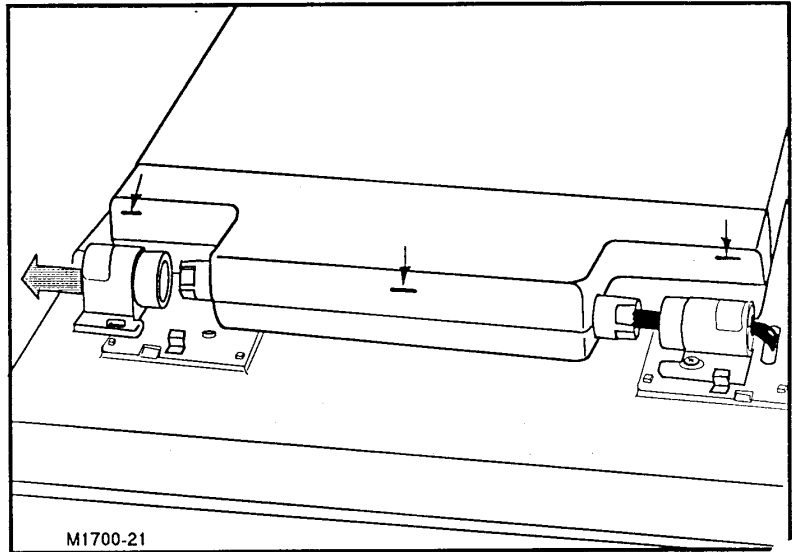

Figure 7-11. Removing the Preview Screen Assembly.
- a. Use a small flat-bladed screwdriver to disengage the three catches on the bottom of the screen housing shown in Figure 7-11.